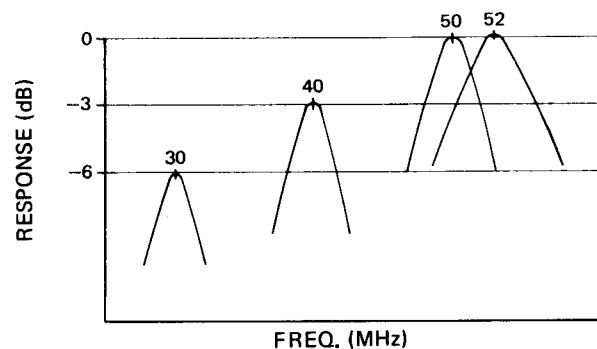

FIGURE 10.
Step 5: Make sure that the output curves are similar to Figure 10 (for channels 1 thru 4).
**NOTE:** If you change the connection from TP-3 to TP-1, you should see a display similar to Figure 10 curve.